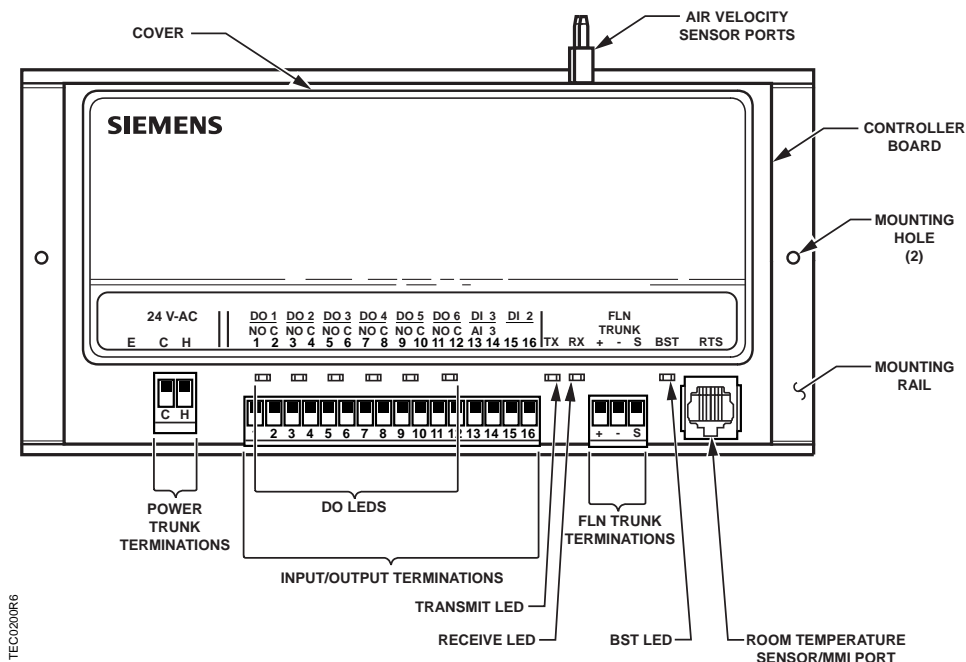

Figure 1. Terminal Box Controller - Electronic Output.
1. Secure the mounting rail (Figure 1) in the controller's desired location.
7. Plug the room temperature sensor cable into the RTS port (Figure 1).